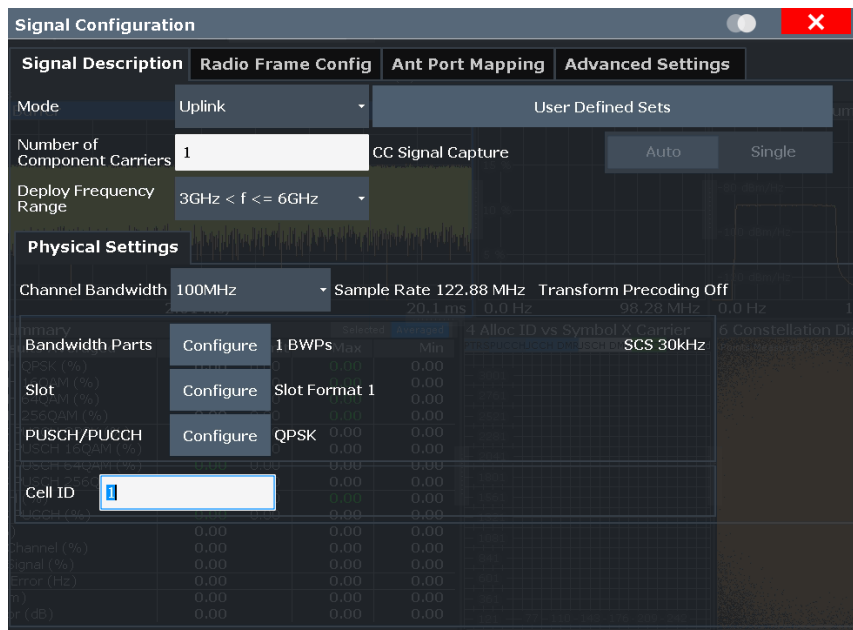

Fig. 2-30: Signal description configuration window in the 5G NR mode on the FSW
- i Signal description settings is in Fig. 2-30,